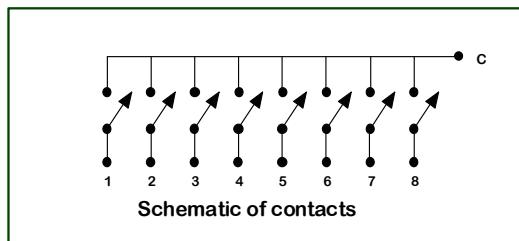

Fig 1.
- At the "Contact" side, the common (C) is connected to one side of all the output "contacts" and this is where the live power to the valves etc is normally wired, see Fig 1.